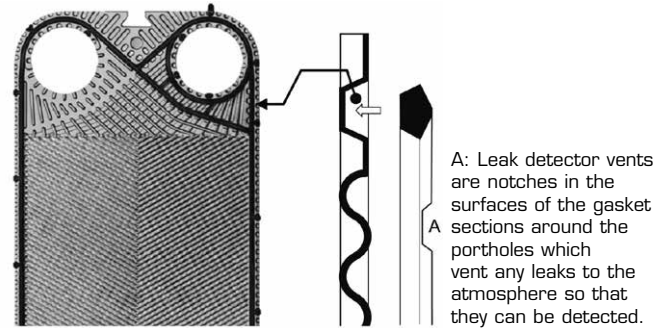
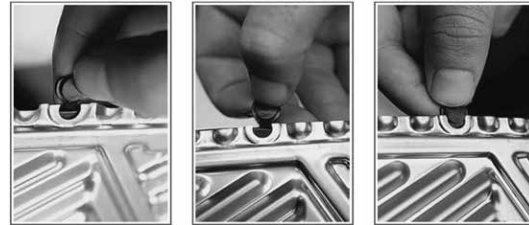

Fig.6
Fig.7
- Press the gasket onto the plate (Fig. 6), making sure that the leak detector vents, "A", are facing up and check that the Plug-In® tabs are hooked into their respective notches (Fig.7). Make sure that the gasket is properly seated in its notch, then turn the plate over to check again that all the Plug-In® tabs are correctly in place.